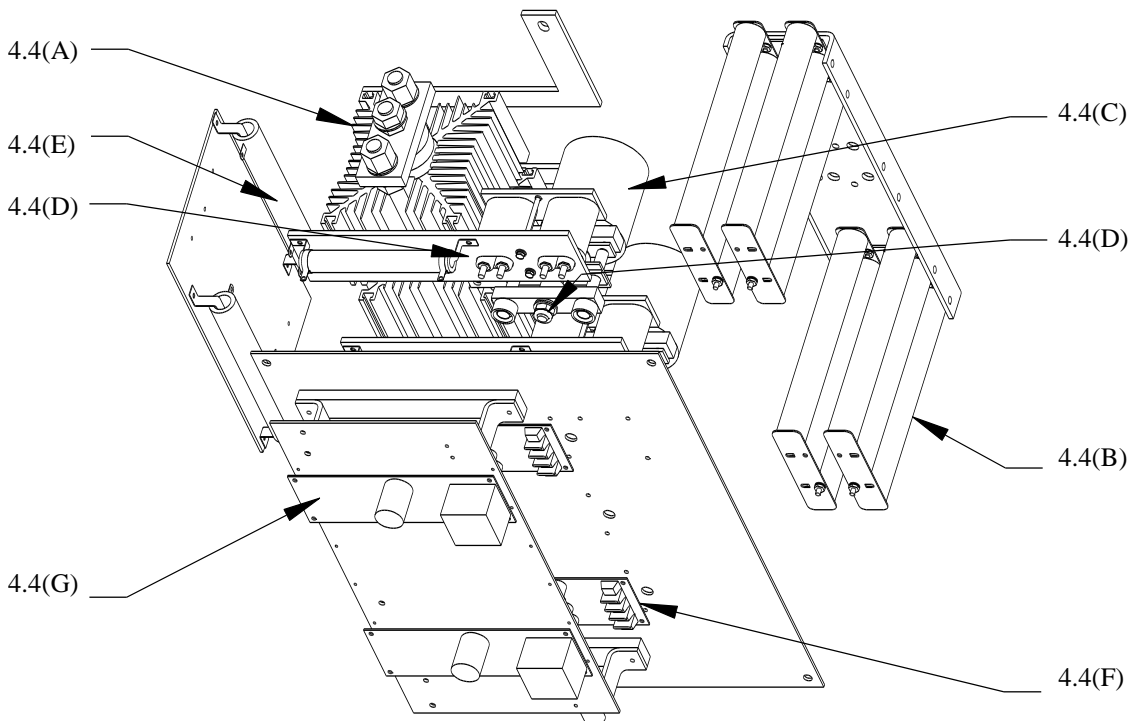

Figure 4.4 – Machine Side Converter Components
- 4.4 (G) -power supply boards
- (See Figure 4.4)